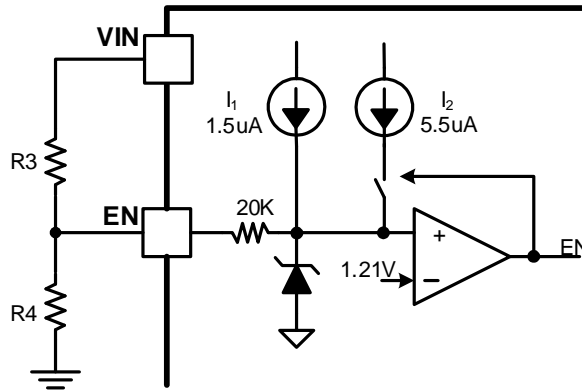

Figure 7. Adjustable VIN UVLO
An internal 1.5uA pull up current source connected from internal LDO power rail to EN pin guarantees that floating EN pin automatically enables the device. For the application requiring higher VIN UVLO voltage than the default setup, there is a 5.3uA hysteresis pull up current source on EN pin which configures the VIN UVLO voltage with an off-chip resistor divider R3 and R4, shown in Figure 7. The resistor divider R3 and R4 are calculated by equation (2) and (3).